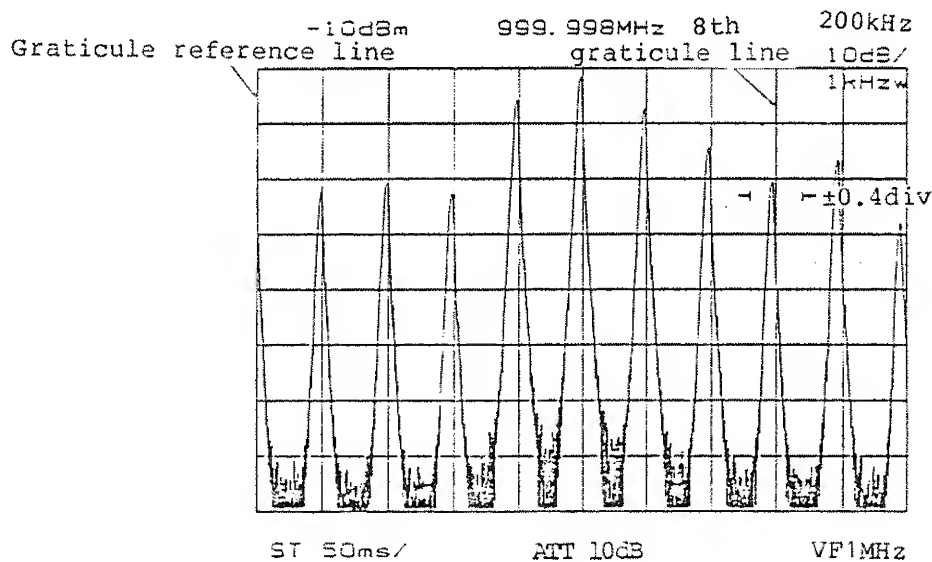

Figure 11-4 Frequency Span 200 kHz Test
- ⑭ Set the output frequency of the function generator to 20 kHz. Turn the TUNING dial to bring the reference spectrum to the leftmost graticule on the display screen. Check that the eighth signal from the reference spectrum is positioned on the eighth graticule from the leftmost graticule on the display screen (or within ± 0.4 division of the eighth graticule). (See Figure 11-4.)